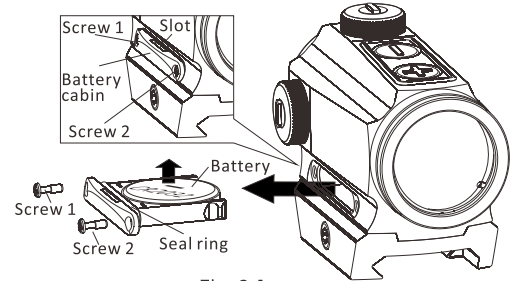

Fig 2-1
1) Removing the battery (Fig 2-1):